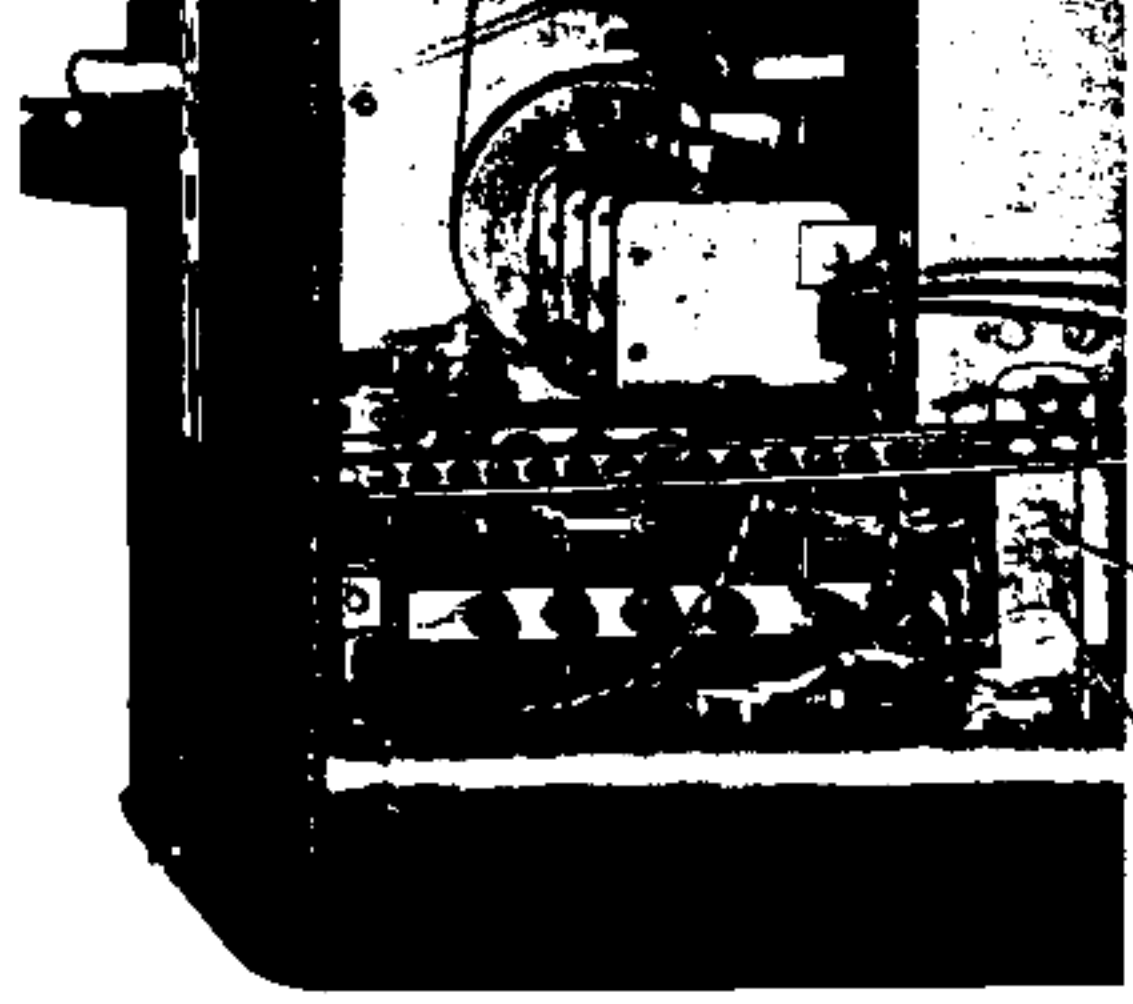

Figure 17—Antenna and Ground Terminals.
- A. An antenna and ground terminal have been provided in the rear of the receiver chassis, (See Figure 17), to which an external antenna and ground may be connected. It is only necessary to use
- F. Antenna and ground terminals have been provided in the left rear of the receiver chassis, to which an external antenna and ground may be connected. It is only necessary to use these external antenna and ground connections when the receiver is to be operated in areas with extremely low signal strengths where it is difficult to receive a desired signal on the standard Wavemagnet. (See Figure 17.)